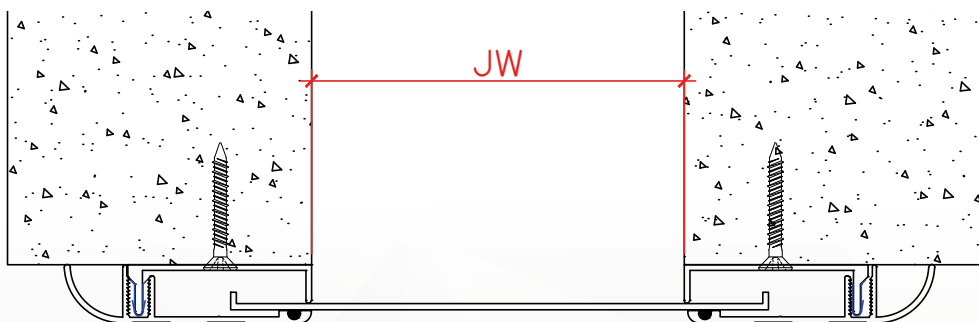

Figure 6.
19. Repeat Step 10 through Step 16 for the opposite corresponding cover plate (see Figure 6).